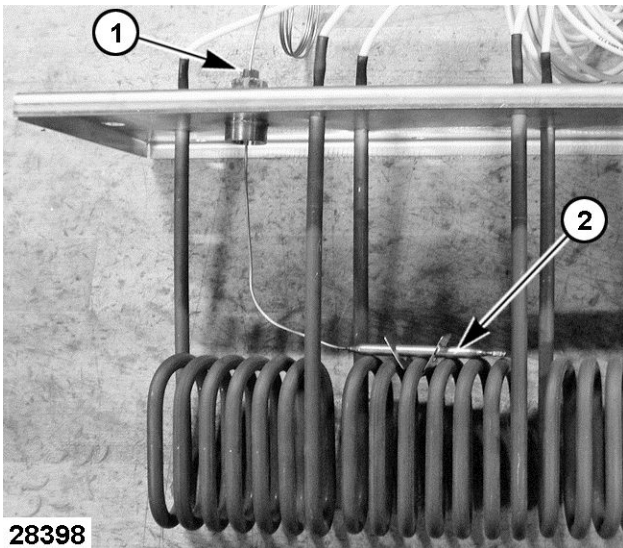

Fig. 52
- A. Remove high-limit capillary tube compression fitting [1] Fig. 52 then remove high-limit capillary tube and bulb [2] Fig. 52 from heating element.